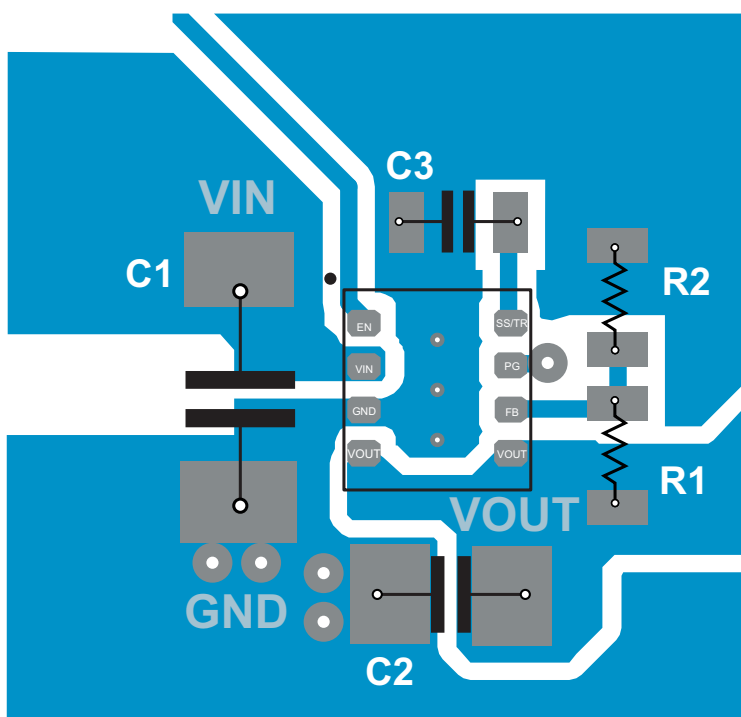

Figure 31. TPS82140 PCB Layout
- Refer to Figure 31 for an example of component placement, routing and thermal design.